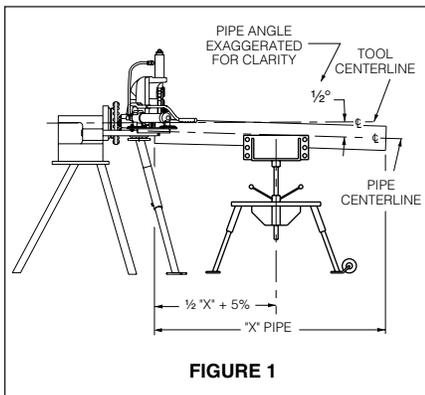

FIGURE 1
Figure 1 shows the Victaulic adjustable pipe stand (VAPS 112). VAPS 112 is suitable for 3/4" to 12" pipe. Also available is Victaulic model VAPS 224 suitable for sizes 2" to 24". See Accessories on page 27.
1. Place the pipe stand at a distance slightly beyond one half the pipe length from the tool (see Figure 1).
3. Adjust the pipe stand height to position the pipe approximately  $\frac{1}{2}^\circ$  below level. See Figure 1. The pipe must be in position on the tool's lower roll while checking the below level position.